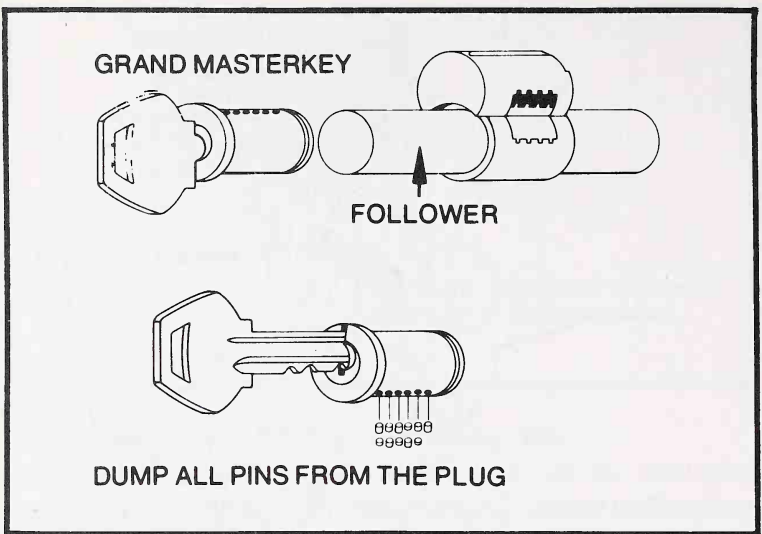

Fig. 13-20. Using the appropriate follower, remove the plug. Dump the pins. (Courtesy Emhart Corp.)
7. Write down the new combination. As an example, suppose the original change-key bitting is 513525 and we wish to reverse it to 525315 (Fig. 13-20).